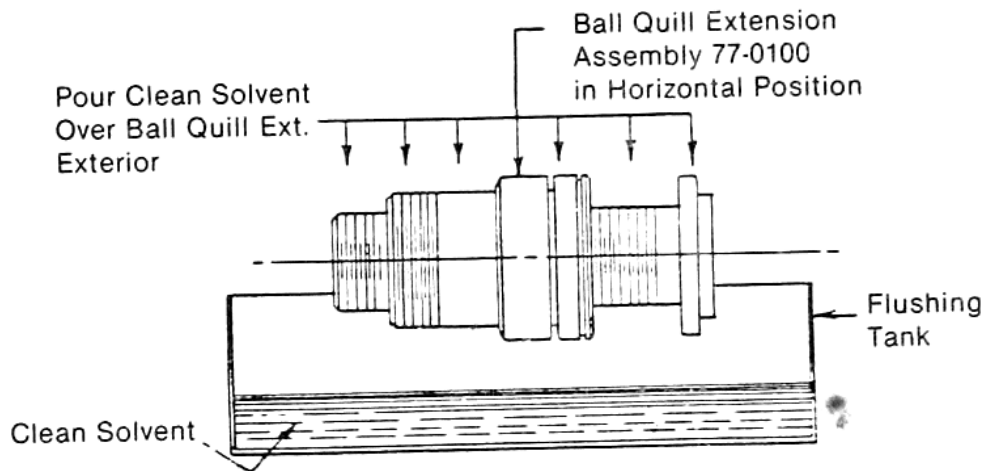

Figure 11-5 Ball Quill Extension Flushing
11.8.2 Cleaning and Flushing the Ball Quill Extension Assembly—Figures 11-5 and 11-6
1. Set the ball quill extension assembly (77-0100, BOSS 6; 77-0364, BOSS 6.2) in a horizontal position and place over a flushing tank. (Figure 11-5.)